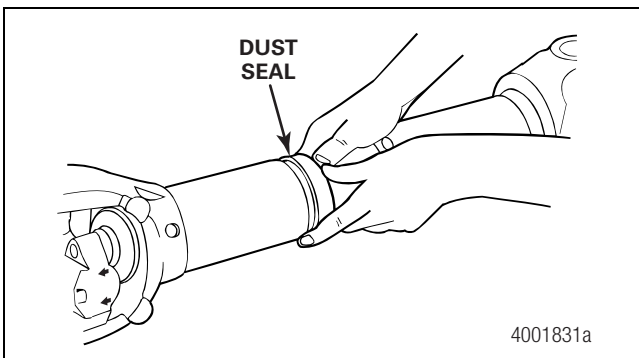

Figure 4.23
- Snap the seal into the groove. Figure 4.23.